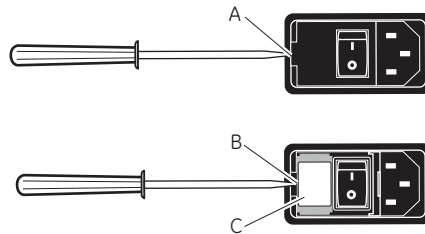

Figure 5-1. Opening the fuse box of the Typhoon instrument.
- 2 Place the end of a small flathead screwdriver into the groove (*Fig 5-1 A*) to the left of the fuse box and pry to open the fuse box.
- 3 Place the screwdriver in the groove (*Fig 5-1 B*) to the left of the fuse holder (*Fig 5-1 C*) and pry out the fuse holder. When the holder is loose, pull it out of the fuse box.